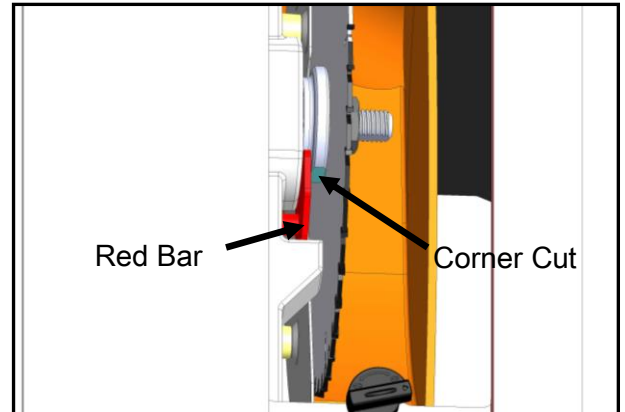
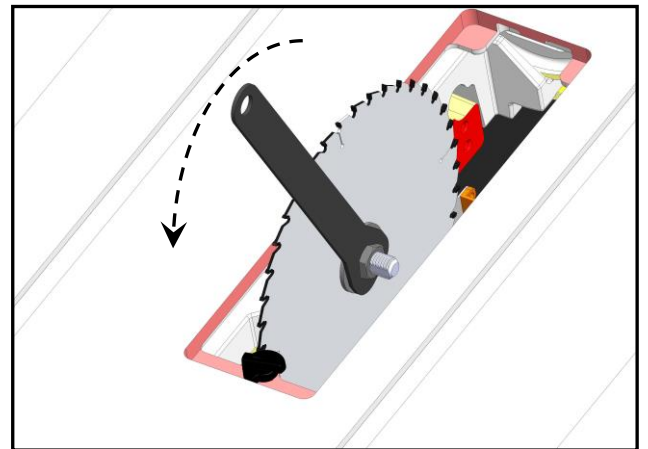

Fig. 9
Fig. 10
In Fig. 9
3. Find a corner cut Fig. 9 on the arbor , push the red bar Fig. 9 into the corner cut as close to saw blade for stop the arbor and use the arbor wrench to loosen and remove the arbor nut, flange, and blade (Fig. 10).